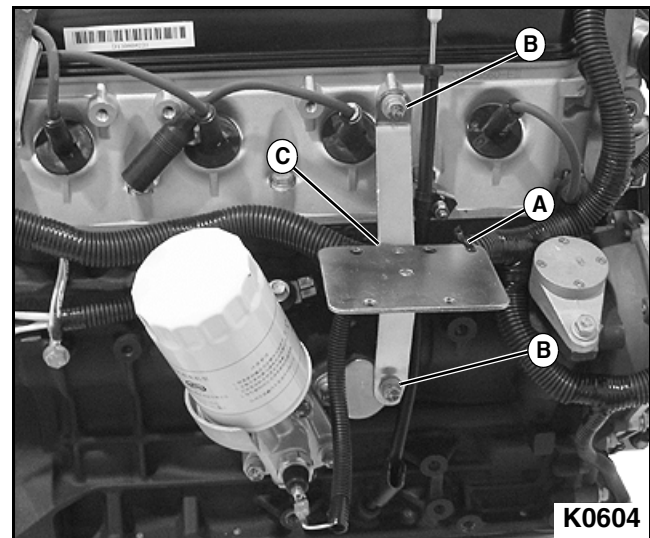

Figure 3-33
2. Remove wire tie (A) holding engine harness to coil bracket. **See Figure 3-33.**
3. Remove ignition coil mounting bracket bolts, flat washers, and lock washers (B) from ignition coil mounting bracket (C). Remove ignition coil mounting bracket from cylinder block.